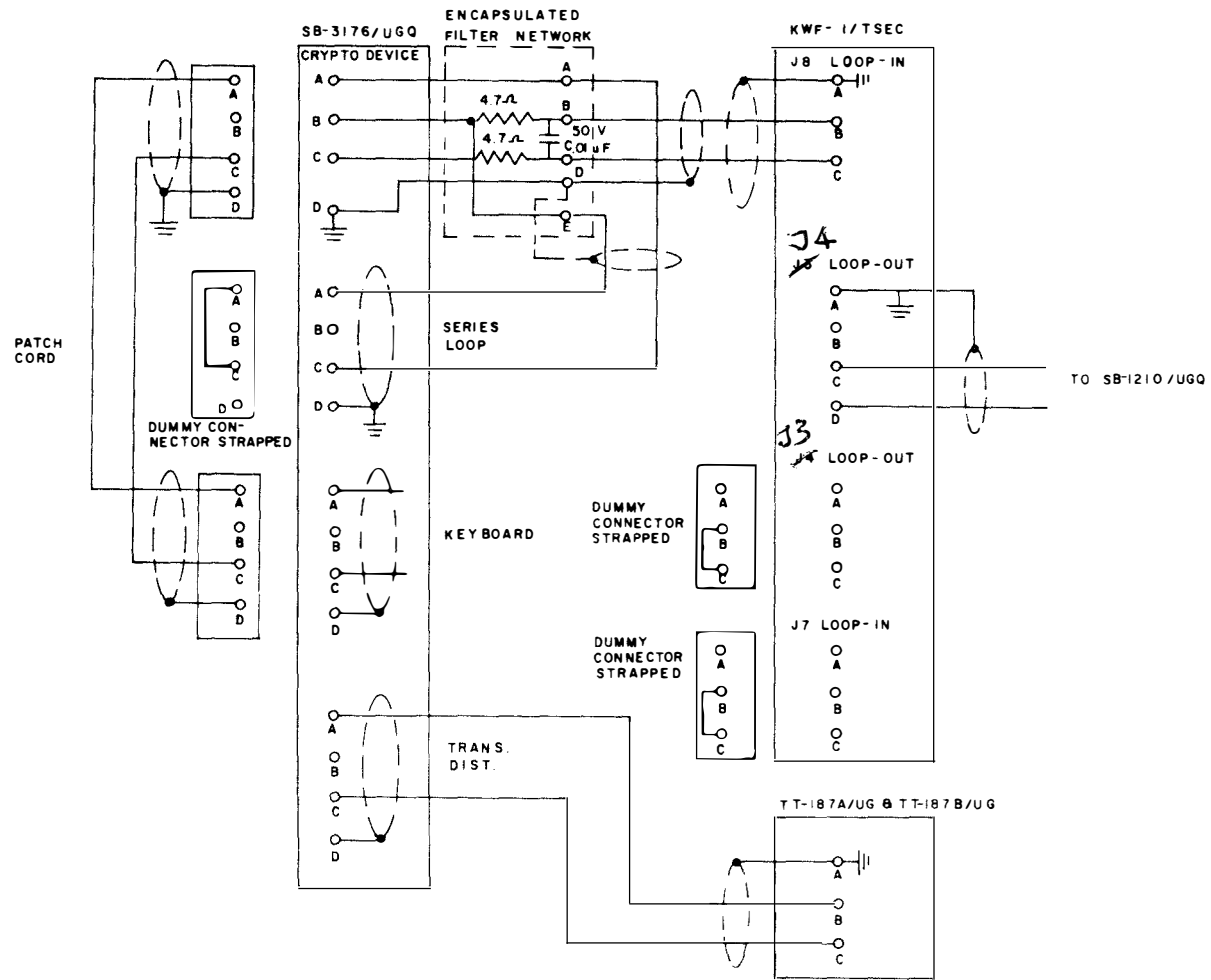

Figure 3.10 Typical Cryptographic System using the TT-187A/UG Series Transmitter-Distributor
1. Figures 3.10, 3.11, 3.12, 3.13 and 3.14 show typical installations using various cryptographic equipment.
Page 3-11, Figure 3.10